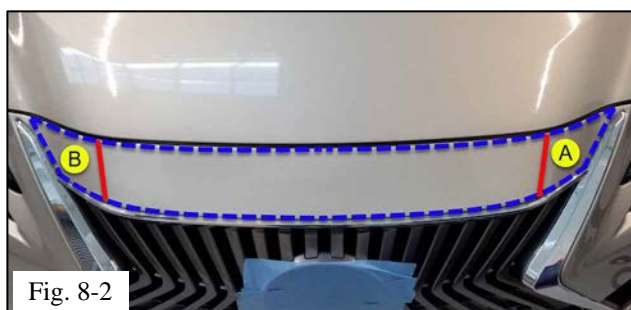

Fig. 8-2
- (b) Slightly pull the material over enough to align the outside corner. Hold the material in place with one hand and tack it down with the squeegee in the other (Fig. 8-2).